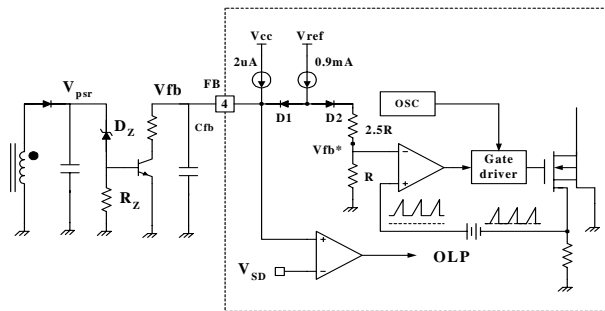

Figure 2. Primary side control circuit
**2. Feedback Control :** FS8S0765RCB employs primary side regulation, which permits elimination of feedback circuit components in the secondary side such as opto coupler and TL431. Figure 2 shows the primary side control circuit. The primary side regulation voltage ( $V_{psr}$ ) is controlled to the breakdown voltage of zener diode ( $D_z$ ). Because current mode control is employed, the drain current of the power MOSFET is limited by the inverting input of PWM comparator ( $V_{fb}^*$ ). When MOSFET turns on, usually there exists high current spike in the MOSFET current caused by primary-side capacitance and secondary-side rectifier reverse recovery. In order to prevent premature termination of the switching pulse due to the current spike, the FPS employs leading edge blanking (LEB). The leading edge blanking circuit inhibits the PWM comparator for a short time after the MOSFET is turned on.